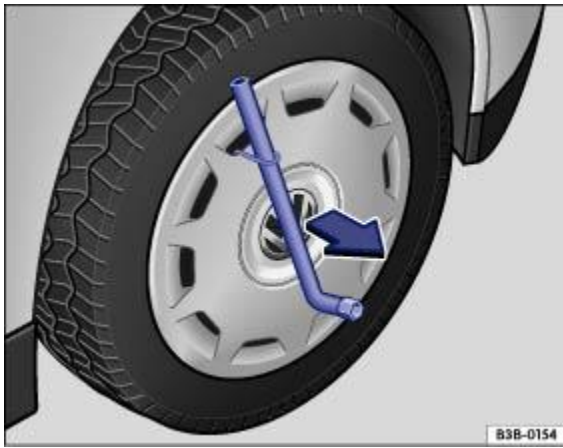

Fig. 201 Removing the wheel cover.
- 🔧 Push the box spanner through the wire hook ⇒ Fig. 201 and remove the wheel cover in the direction of the arrow.